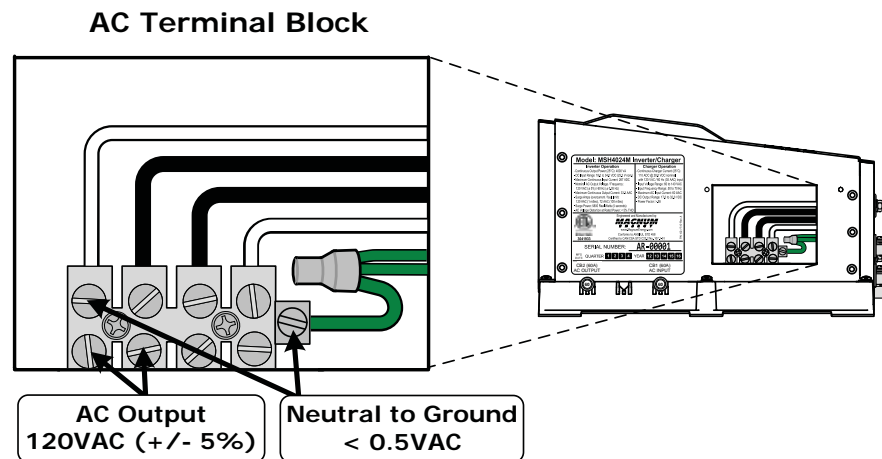

Figure 2-15, AC Voltage Checks
5. Check the AC output voltage of the inverter by connecting an AC voltmeter to the output terminals as shown in Figure 2-15 (verify the correct output voltages).